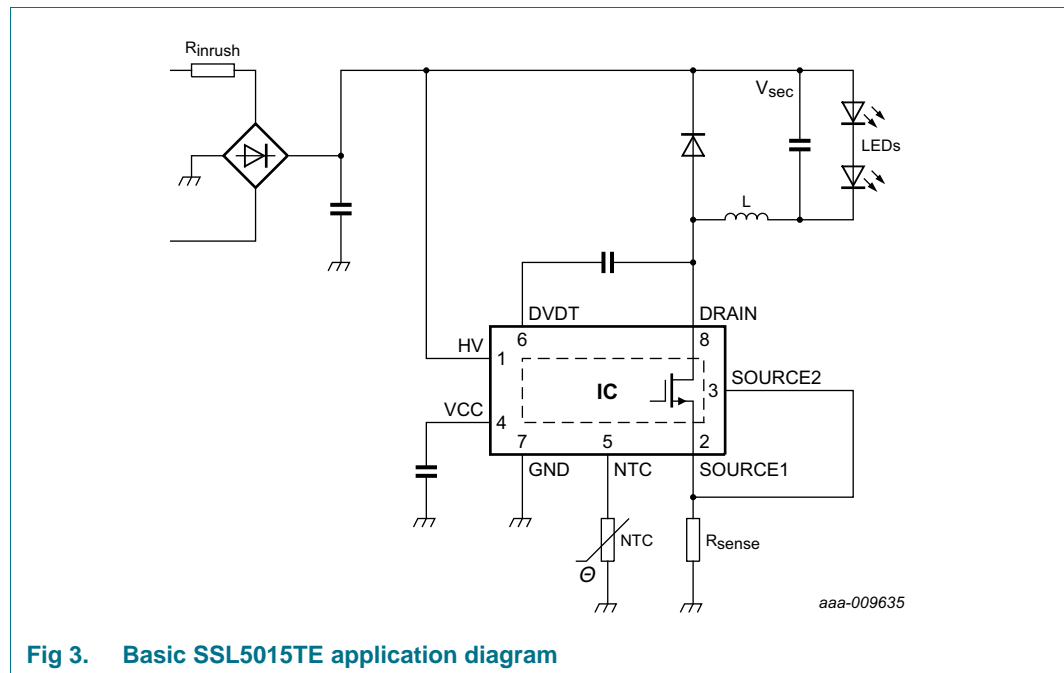
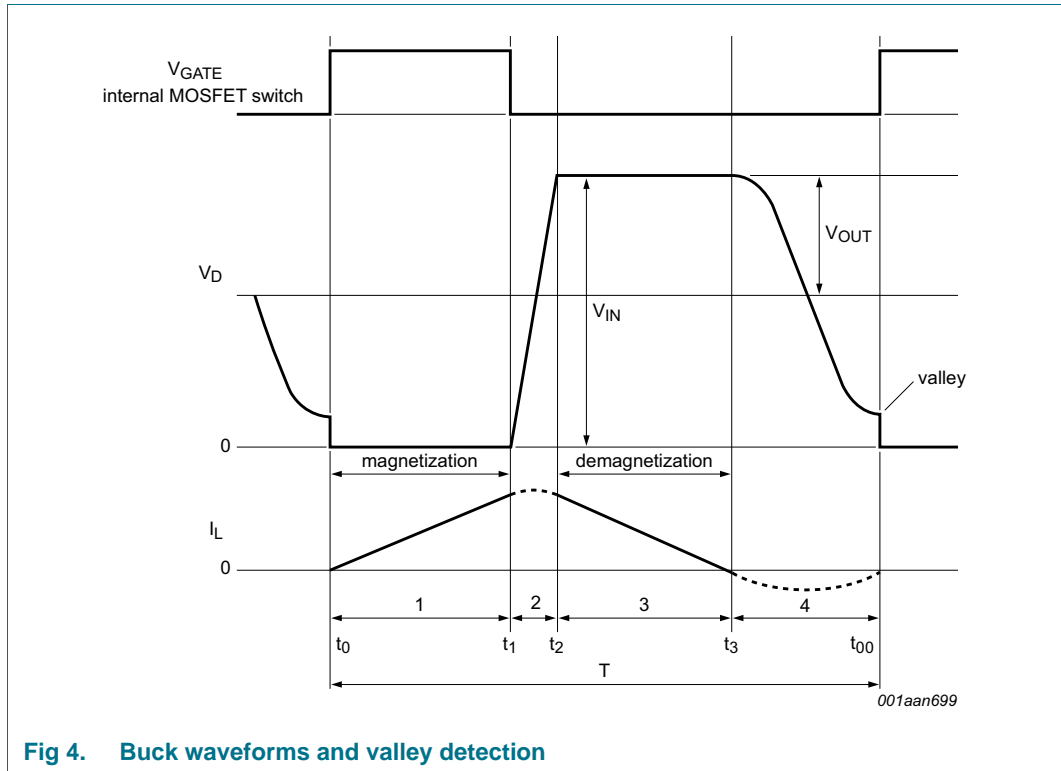

Fig 3. Basic SSL5015TE application diagram
Fig 4. Buck waveforms and valley detection
- Low BOM LED driver solution (see Figure 3):
The converter in the SSL5015TE is a BCM, peak current controlled system. Figure 3 shows the basic application diagram. Figure 4 shows the waveforms. This converter operates at the boundary between continuous and discontinuous modes. Energy is stored in inductor L when the MOSFET is switched on. The inductor current  $I_L$  is zero when the internal MOSFET is switched on at  $t_0$ . Thereafter, the amplitude of the current builds up in L proportionally with  $V_{IN} - V_{OUT}$  and the time that the internal MOSFET is on ( $t_0$  to  $t_1$ ). The peak current sensed at the SOURCE2 pin determines when the MOSFET is switched off. When the internal MOSFET switches off at  $t_1$ , the current flows through the freewheeling diode and the output capacitor ( $t_2$  to  $t_3$ ). The current then drops at a rate proportional to the value of  $V_{OUT}$ . When the inductor current reaches zero, after a short delay ( $t_3$  to  $t_{00}$ ), a new switching cycle is started when the MOSFET is switched on again.